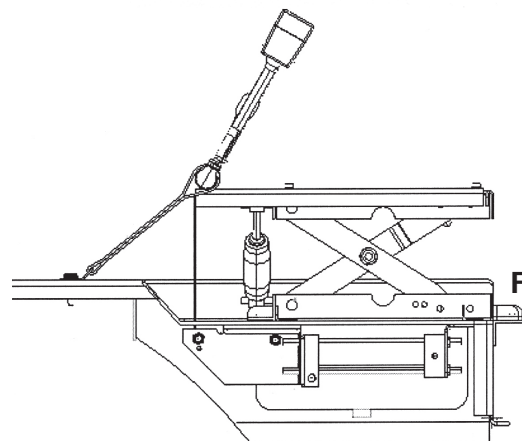

Figure 6
1. Position SEAT in lowest position. **See FIGURE 6.**